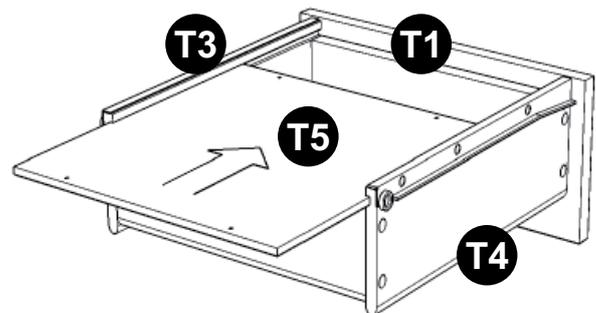

Figure 2
Attach Middle Panels (C) and (D) to Fixed Shelf (L) with Cam Locks. (See Figure 2)
Slide T5 into grooves in T3 and T4. Be sure to push T5 all the way forward so it meets T1. (See Figure 2)